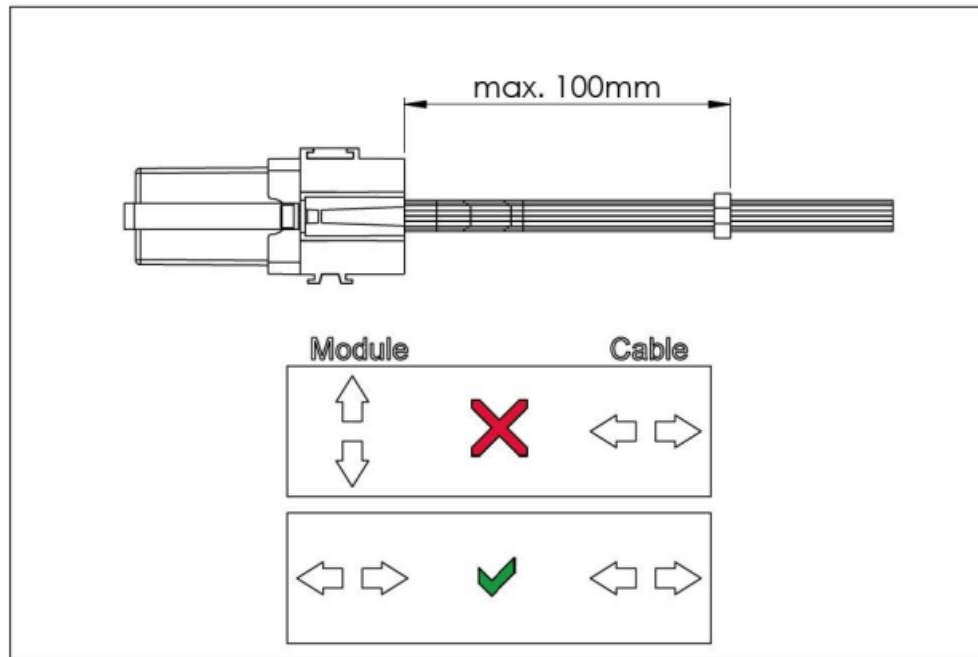

Figure 1: Strain relief of the cable harness (example). 100 mm (max.) are mandatory.
- The cable routing must be selected in such a way that the cable harness only moves identically to the direction of movement of the controller/plug. (Attachment controller/cable/strain relief on the same underground). A strain relief is necessary (see Figure 1)